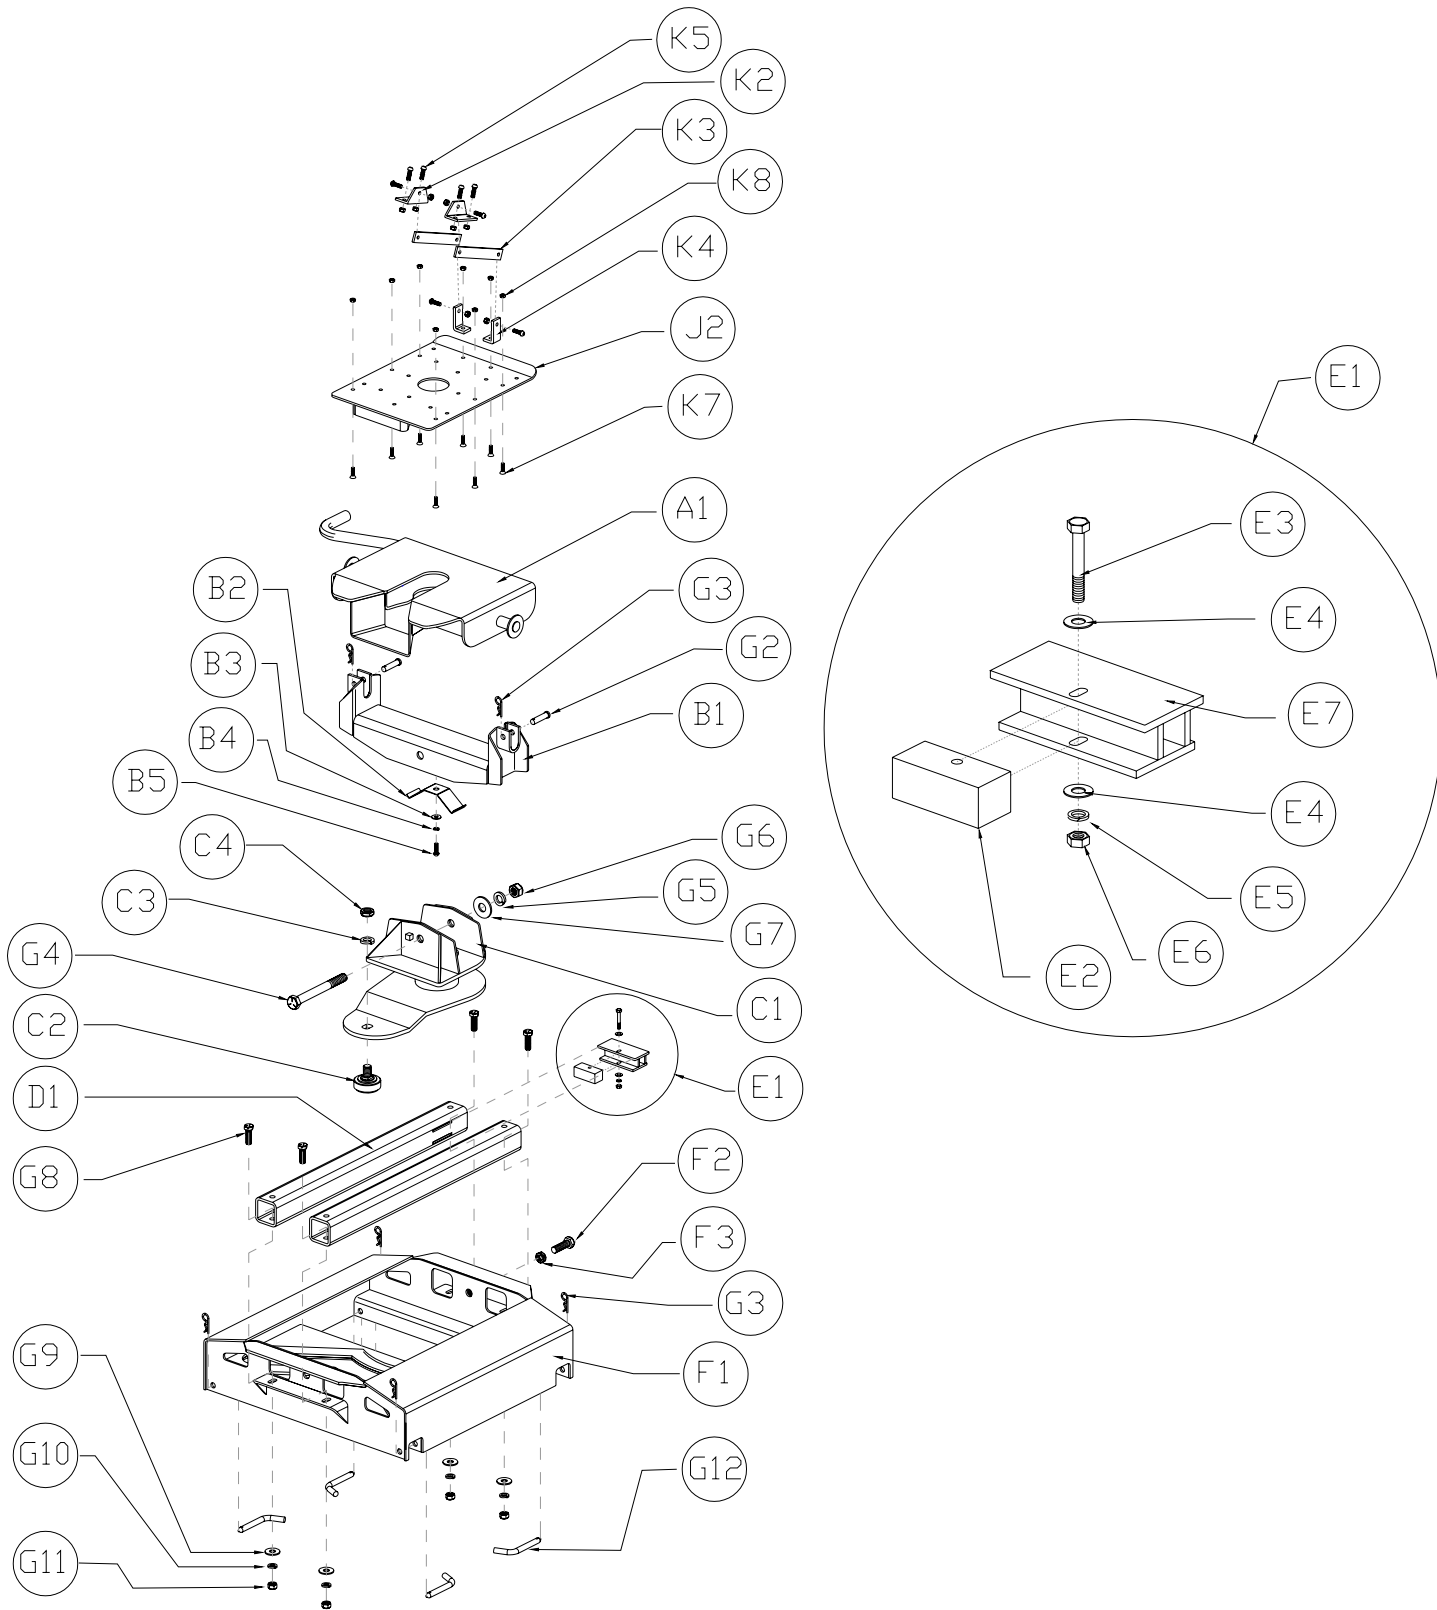

Figure 1
4. The trailer king-pin must be kept even with /or forward of the foremost point of the trailer. See "Caution" and "figure 1" on pg. 5.
5. Trucks with bed liners may need a tall Mounting Post. See "NOTE" under item 4 of "Drilling the Bed" on pg. 6 for detail.
7. Read these instructions completely and follow them accurately. Should you have any questions, please call the factory at (800) 443-2307 for installation assistance.